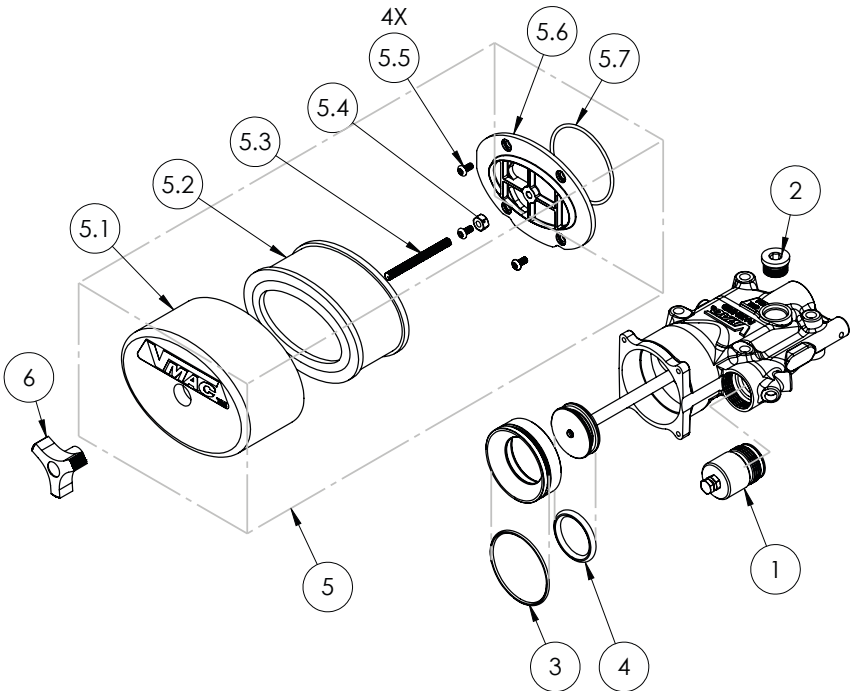

Figure 81 — Inlet Valve Sub Components
3. Inlet Valve Sub Components, 9200634 (Figure 81)